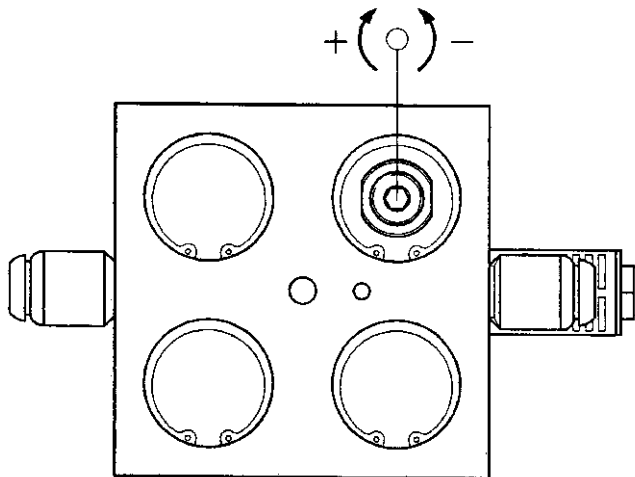

Figure 3
6. The automatic raise pressure margin adjustment screw is shown below (Figure 3). With the regulation screw in the minimum pressure position (nut level), the automatic raise pressure margin will be adjusted to approximately the minimum margin, 17.5psi.